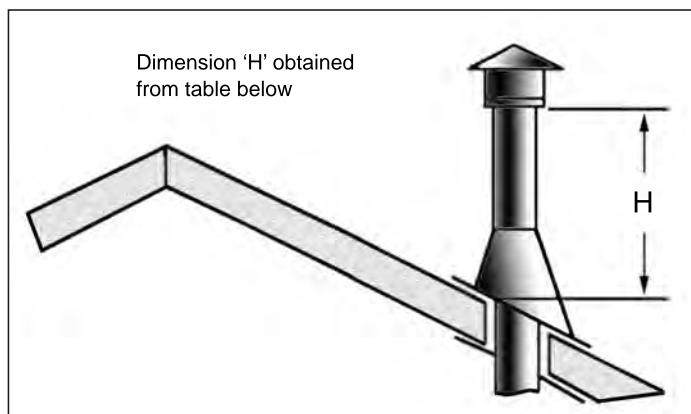

Figure 47: Height of Vertical Termination;
- Step 8.** Continue to add pipe sections until the height of the vent cap meets the minimum code requirements. Refer to Figure 47 and Table 7. Note that for steep roof pitches, the vent height must be increased. In high wind conditions, nearby trees, adjoining roof lines, steep pitched roofs, and other similar factors can result in poor draft, or down drafting. In these cases, increasing the vent height may solve the problem.
Table 7: Minimum 'H' for Figure 47.